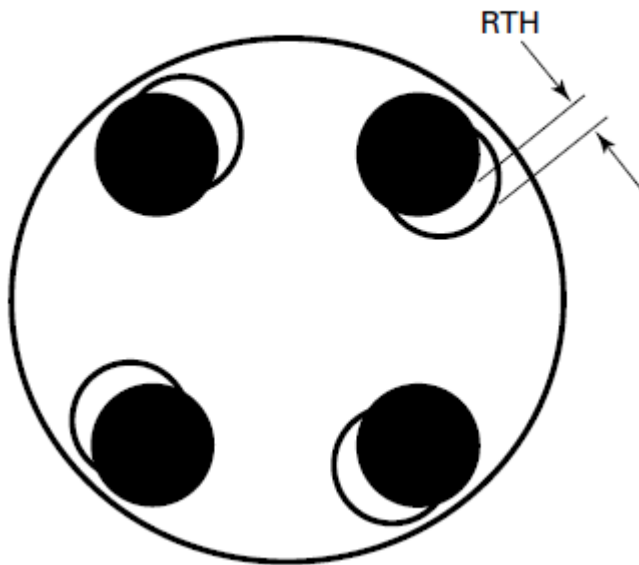

Figure 5
- Rotational two-hole (RTH) ensures that the flange holes are rotationally aligned to one another such that the fasteners can be installed perpendicular to both flanges. Measure RTH by confirming that the hole centres are aligned, see Figure 5.